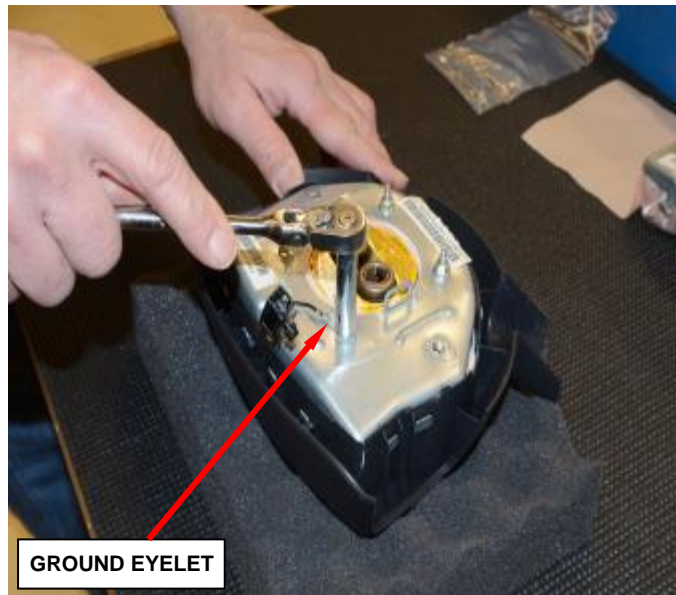

Figure 5 – Ground Eyelet
10. Remove and discard the nut holding the ground eyelet to the inflator assembly and remove the ground eyelet from the stud (Figure 5).